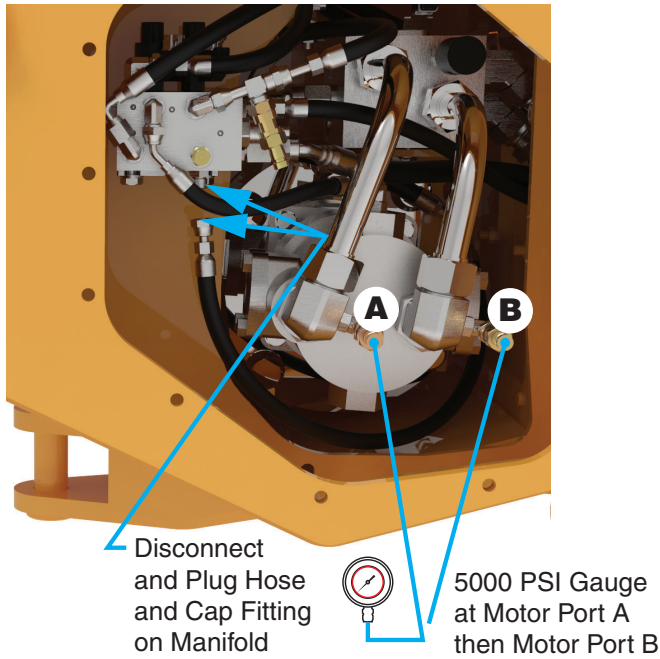

Figure 3-6 Test Equipment Setup
2. Disconnect and plug the brake release hose at the control manifold, and cap the fitting. See Figure 3-6. This will lock the winch brake to build pressure in the motor.